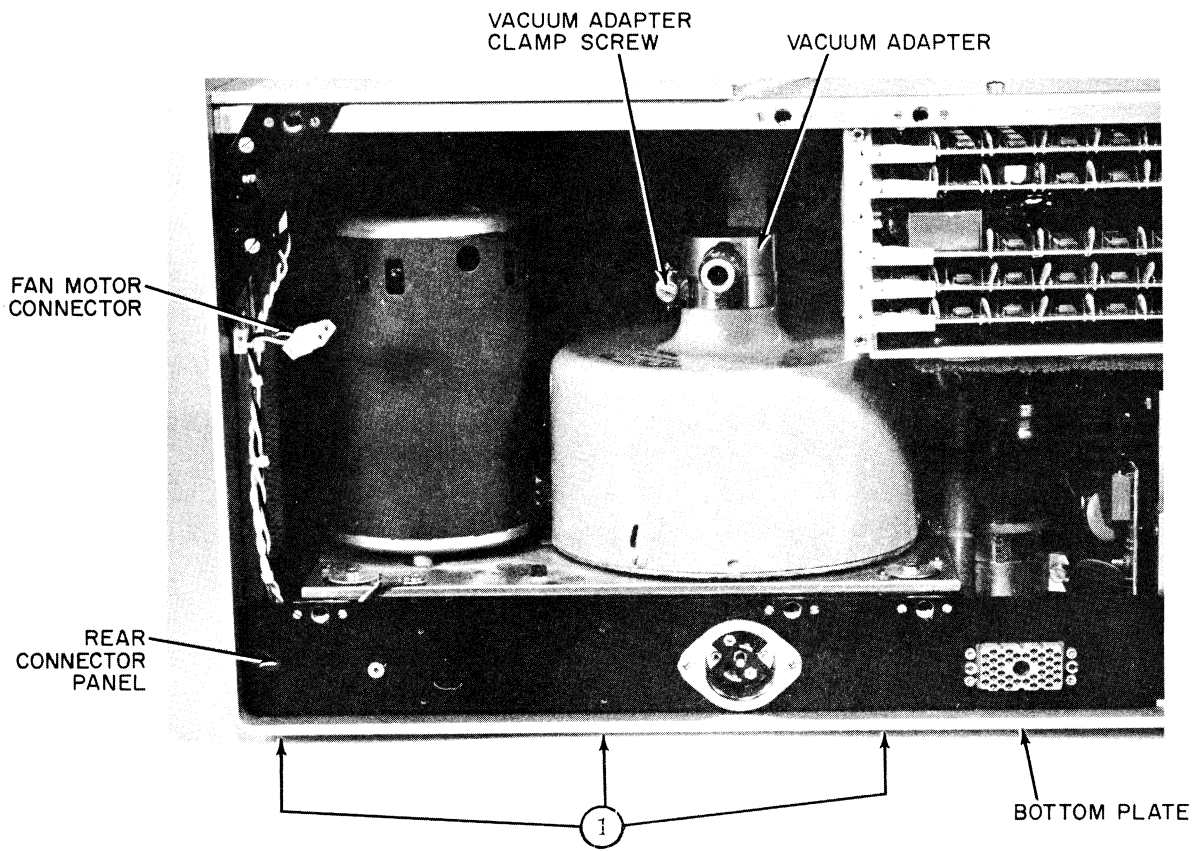

Figure 9-3. Rear View, Cover Removed
- e. Using a Phillips screwdriver, remove three screws ①, figure 9-3, which hold rear connector panel to bottom plate.
- m. LOOSEN vacuum adapter clamp screw and lift adapter off from pump, figure 9-3.